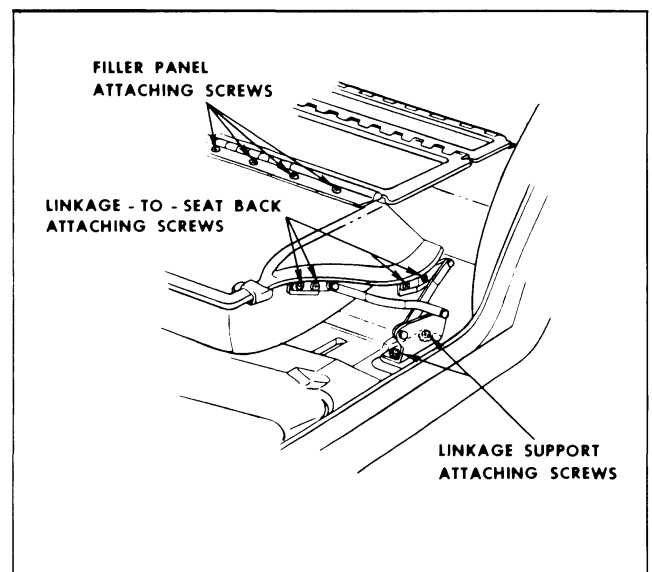

Fig. 17-10 Folding Seat Linkage
2. On both sides of seat back, remove screws securing seat back to folding linkage (Fig. 17-10) and remove seat back and panel from body.